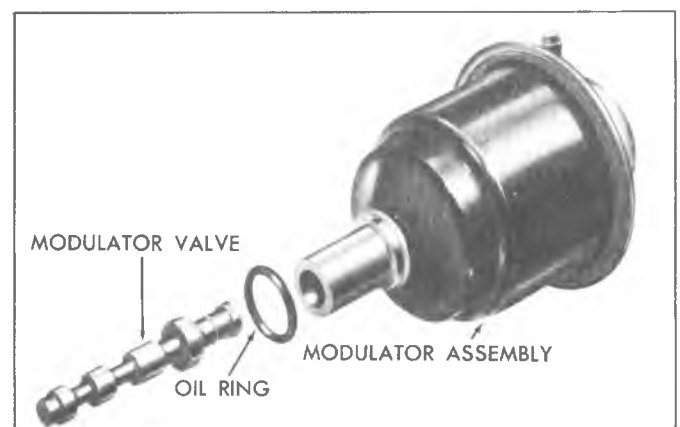

Fig. 110T--Modulator Assembly and Valve
1. Inspect modulator assembly for any signs of bending or distortion (fig. 110T).